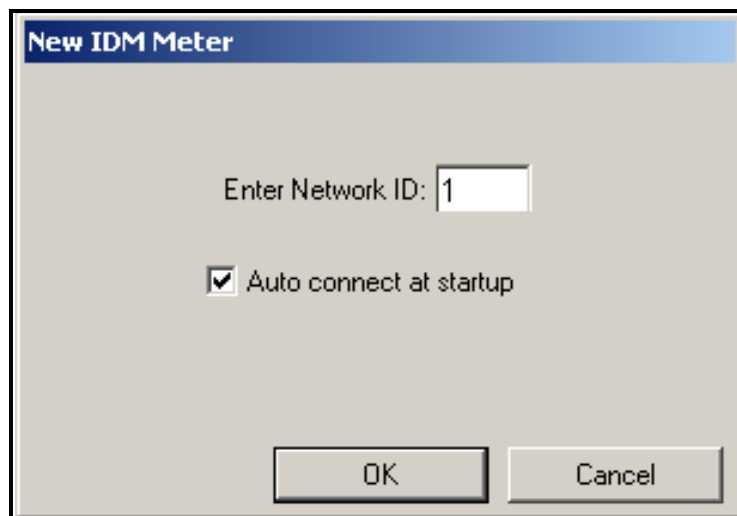

Figure C-5: New IDM Meter Screen
4. The *New IDM Meter* screen (shown in Figure C-5 below) opens. Enter the Network ID number for the meter, and click [OK].